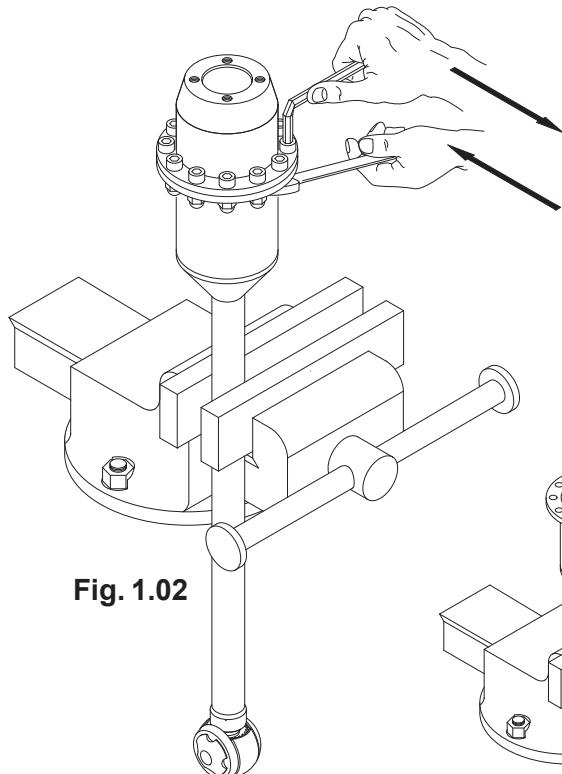

Fig. 1.02
1.2.02) Use a 5-mm allen wrench and 10-mm ring spanner to loosen the twelve screws and the twelve nuts pos. 57 and pos. 58, see fig. 1.02.